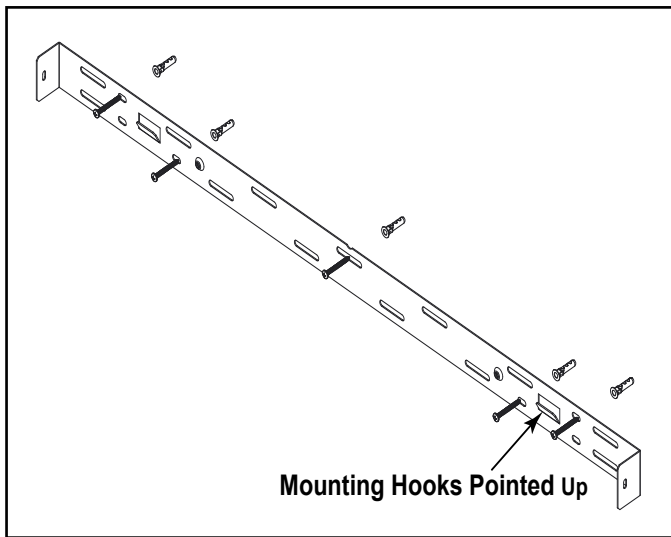

Figure 4.7 Bracket Attachment
- With mounting hooks pointed up, attach the bracket to the masonry anchors with ST6X50 screws. See Figure 4.7.